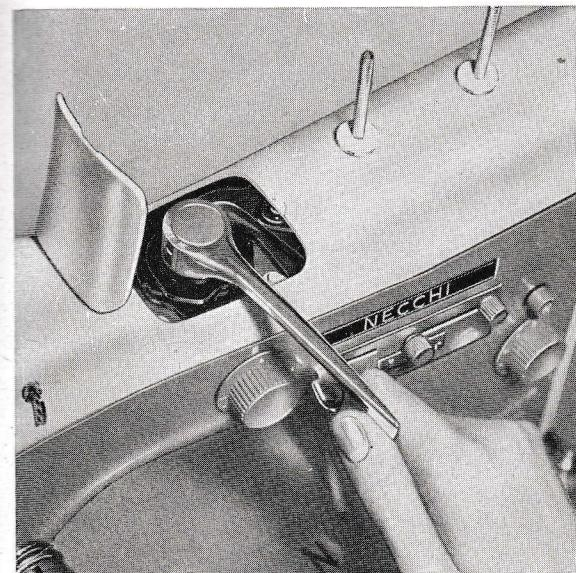

Fig. 2
*Cams to be used*: Permanent three cam group, fitted with handle, to be inserted on the driver pin (fig. 2).